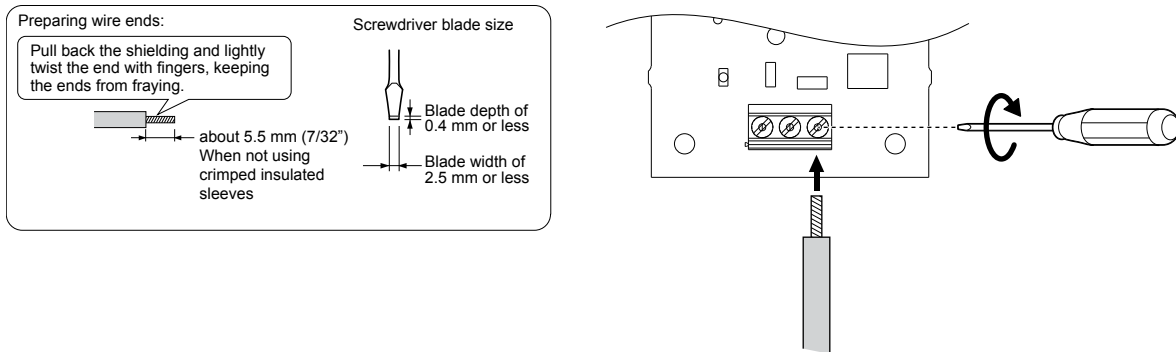

Figure 3.47 Wire the Option Plug
2. Use a flat-blade screwdriver to loosen the screws on the terminal block TB1, connect wiring to the 24, 0, and FE terminals as shown in Figure 3.47, then tighten the terminal screws to hold wiring in place. Refer to Table 3.19 to confirm that the proper tightening torque is applied to each terminal. Take particular precaution to ensure that each wire is properly connected and wire insulation is not accidentally pinched into electrical terminals.